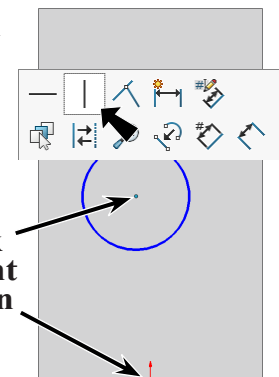

Fig. 9
Step 6. **Ctrl click centerpoint of circle and Origin** to select both, Fig. 9.